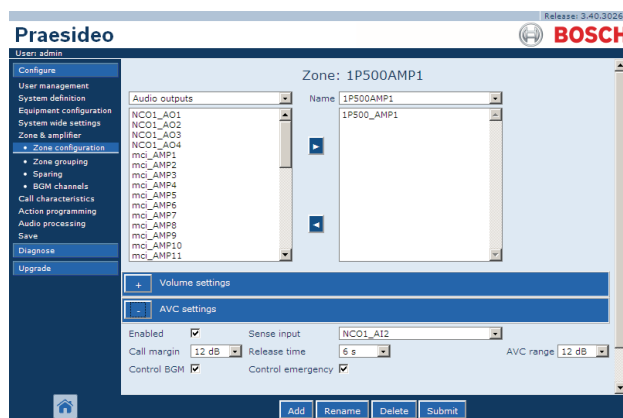

figure 50.1: AVC settings
set to AVC range (see figure 50.1). To prevent undesired supervision faults, make sure that:
- 1 Go to the *AVC settings* category of the *Zone Configuration* page. A screen similar to the one in figure 50.1 appears in the main frame of the web interface.